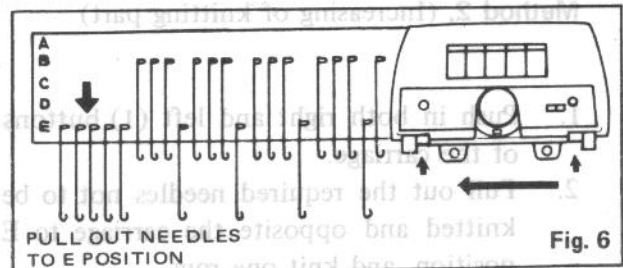

Fig. 6
2. Select the needles according to the relative knitting diagram and knit one row. (Fig. 6)